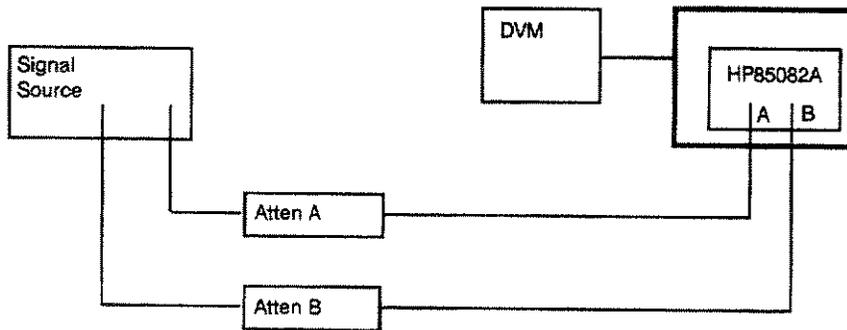

Figure 4-7. Amplitude Accuracy vs Input Level (and rear panel output check) Test Setup
1. Configure the equipment as shown in Figure 4-7.